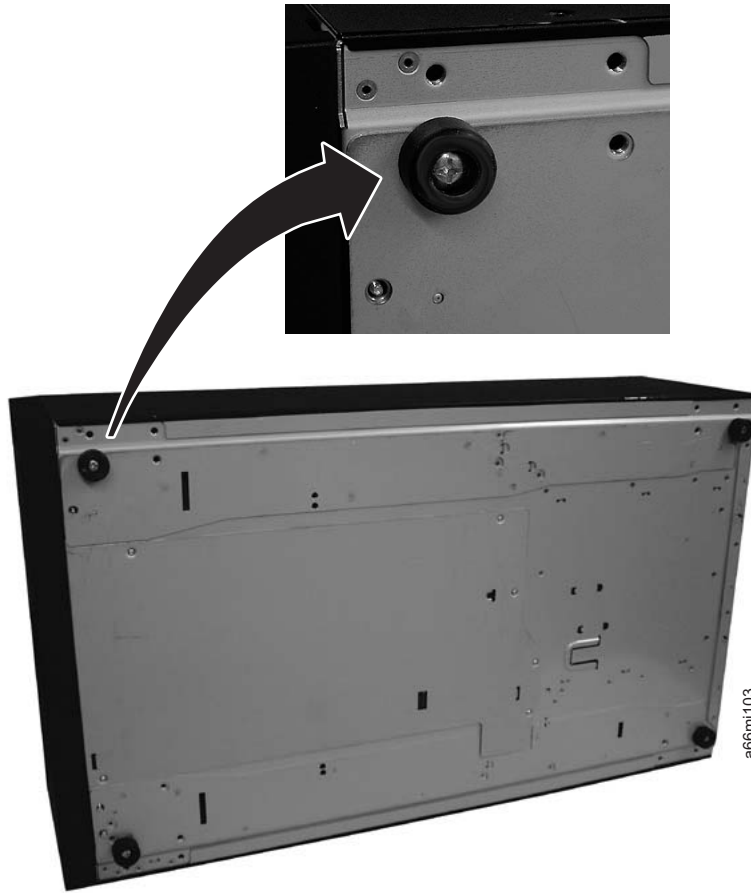

Figure 8-71. Foot pad Locations
2. Using a #2 Phillips screwdriver, install the foot pads on the bottom of the library chassis. See Figure 8-71 on page 8-74 for foot pad locations.